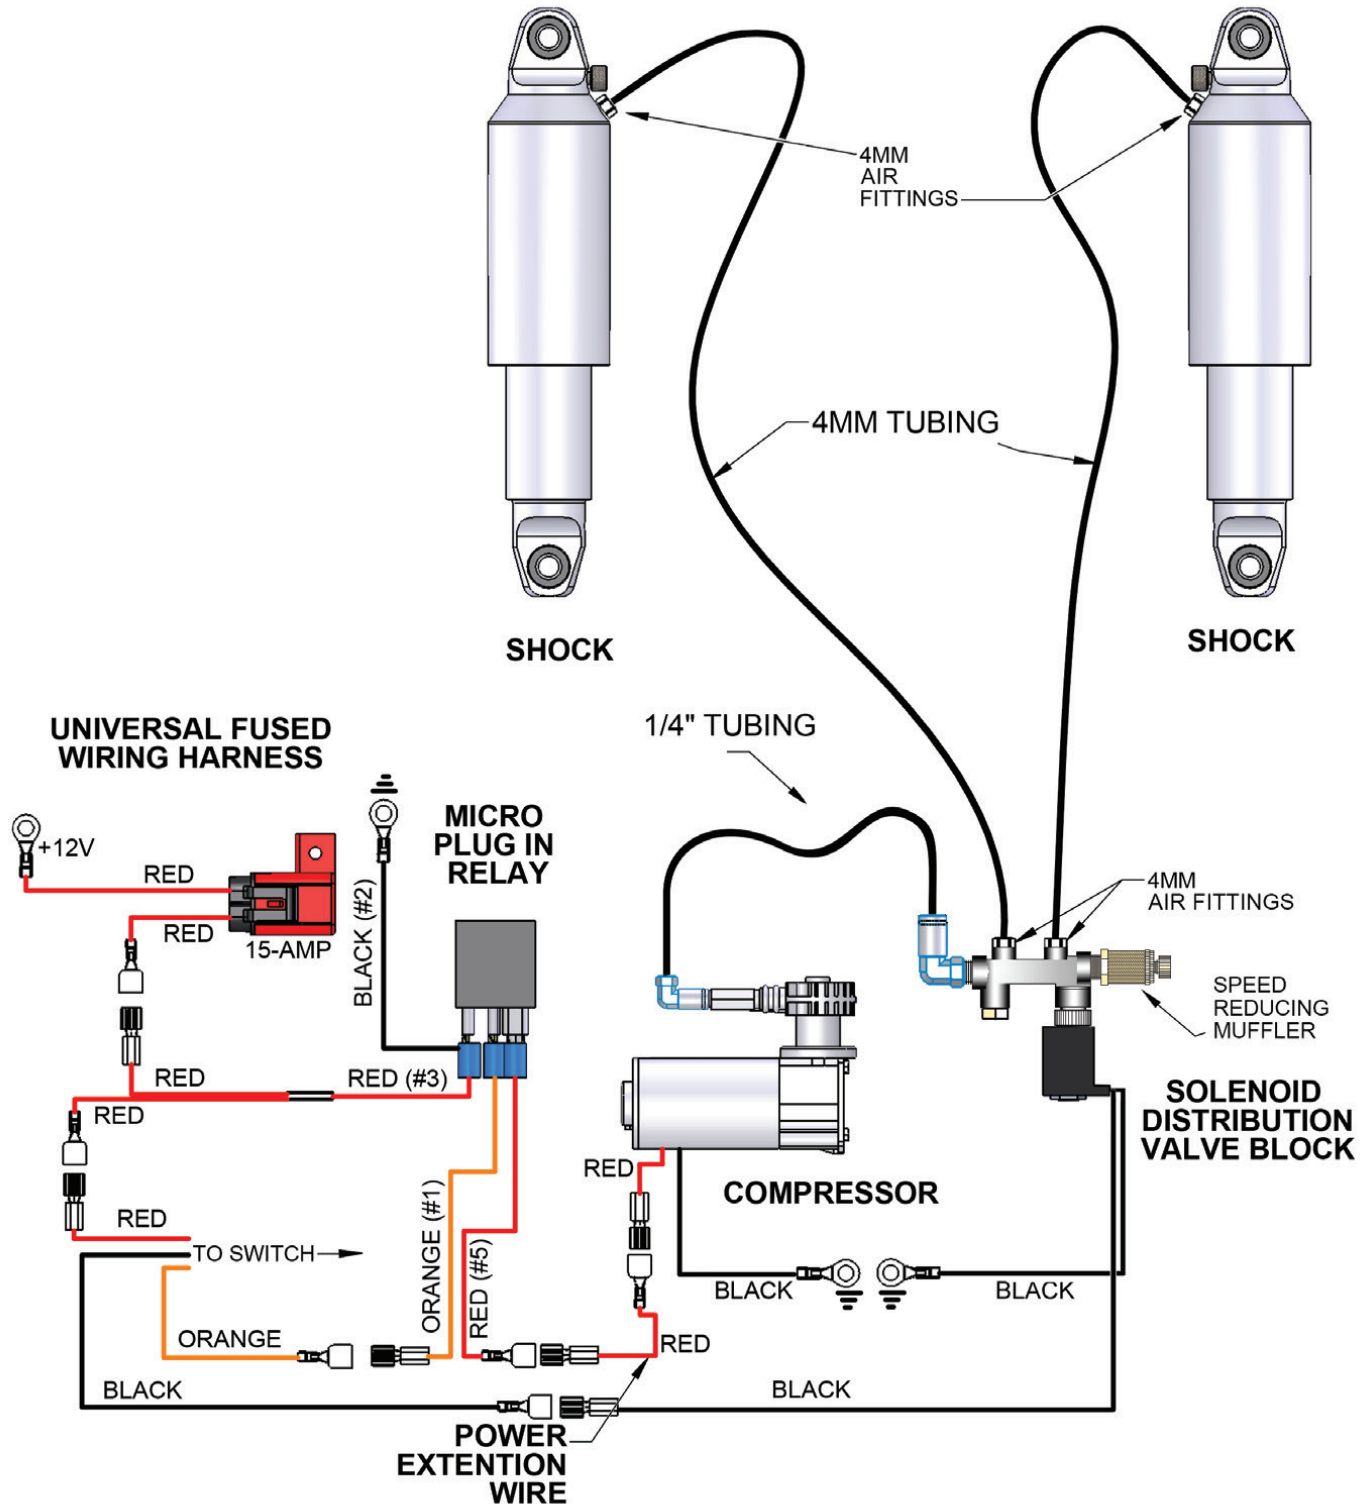

FIGURE 30
13. REMOVE THE LOWER CLUTCH PERCH BOLT. WITH THE INCLUDED SCREW AND SPACER, ATTACH THE HANDLEBAR SWITCH TO THE PERCH. ROUTE THE WIRES DOWN THE HANDLEBARS, UNDER THE FUEL TANK BACK TOWARD THE BATTERY. FOLLOWING THE WIRING DIAGRAM IN THE BACK OF THIS MANUAL, COMPLETE THE ELECTRICAL CONNECTIONS. (FIGURES 30)